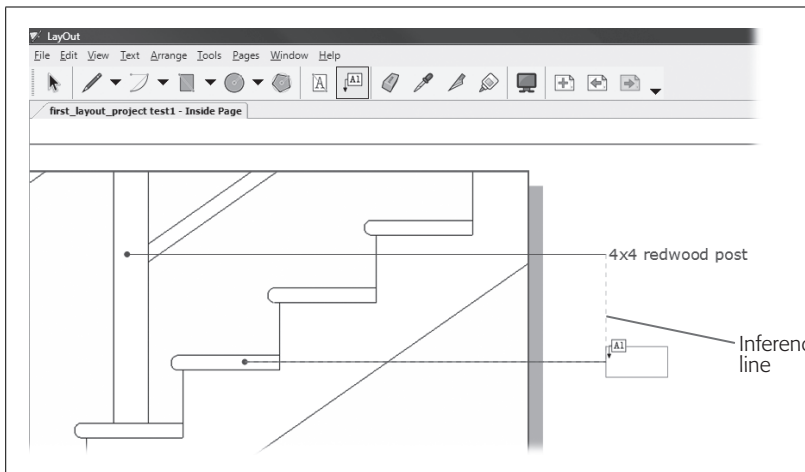

Figure 16-22:
In a couple areas, pages created in LayOut are superior to images printed directly out of SketchUp. Callouts are one of those areas. A *callout* is a bit of text that draws attention to a particular part of an image, like the words “Inference line” in Figure 16-22. LayOut’s Label tool is made specifically to create callouts. In the next few steps, you’ll add a few callouts to the closeup image of the stairs:
5. With the Label tool, click one of the stair treads, and move the cursor to the right until you see an inference line extending from the first callout, as shown in Figure 16-22.